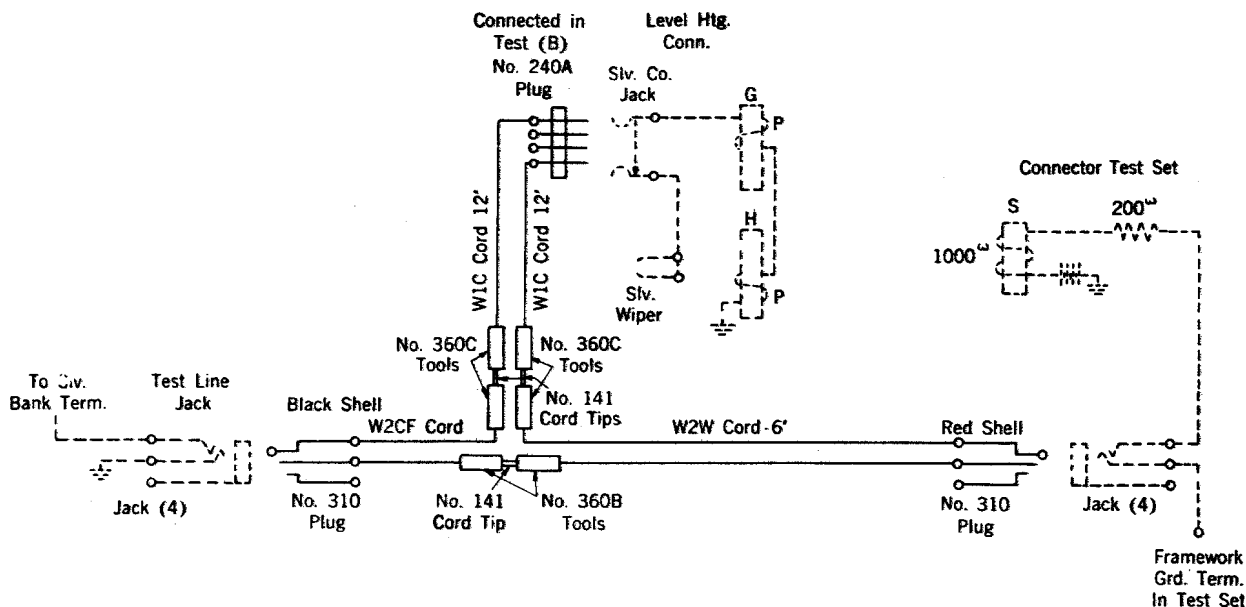

Fig. 1
- 2.06 W2W Cord equipped with one No. 310 Plug, one No. 360B Tool and one No. 360C Tool (2W17A); one W2CF Cord equipped with one No. 310 Plug (replace RED shell with BLACK shell), one No. 360B Tool and one No. 360C Tool (2W17D); two W1C Cords, each 12 feet long; two No. 360C Tools; one No. 240A Plug; and three No. 141 Cord Tips. Assemble to form Special Cord as shown in Fig. 1.
2	Insert black shelled No. 310 plug of special test cord (Fig. 1) into jack 4 of test line (level hunting) on connector frame, and insert red shelled No. 310 plug into jack 4 of test set.
11	Insert No. 240A plug (stay cord to the right) of special test cord (Fig. 1) into sleeve cutoff jack of connector.  Note: If sleeve cutoff jack wiring is reversed, reverse No. 240A plug.